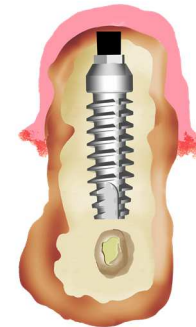

Fig. 1
- Incision is made and Healing Plug is exposed. Fig. 1 Page 45